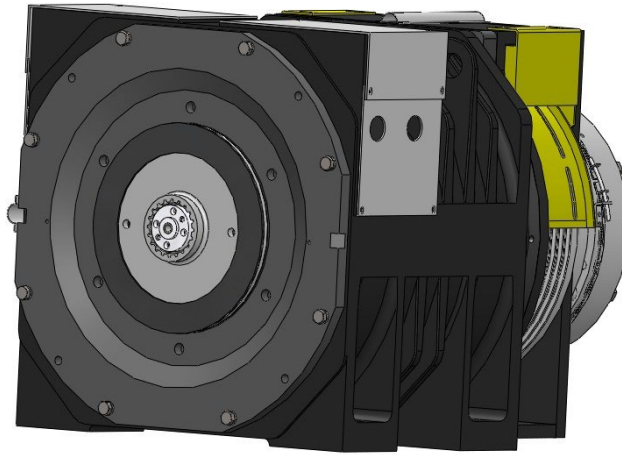

Figure 46 Reinstall Friction lining
3. Install the new friction lining. It is OK to apply a little force using rubber hammer to press it in and move it forward through the spline (Be careful not to damage the O-ring.); make sure the friction lining moves easily. See Figure 46.